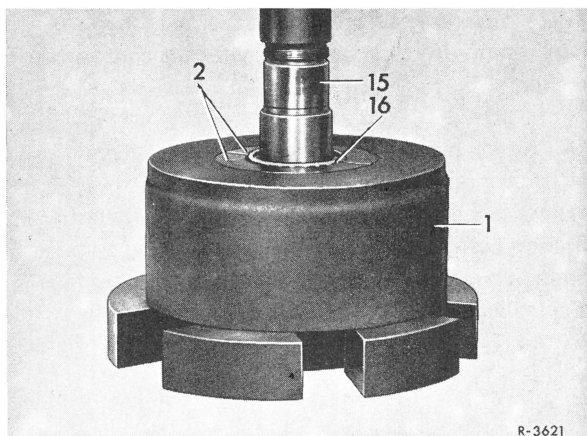

Fig. 10
**11** Force outer bearing inner race (16) from rear axle shaft flange (15) (Fig. 10).